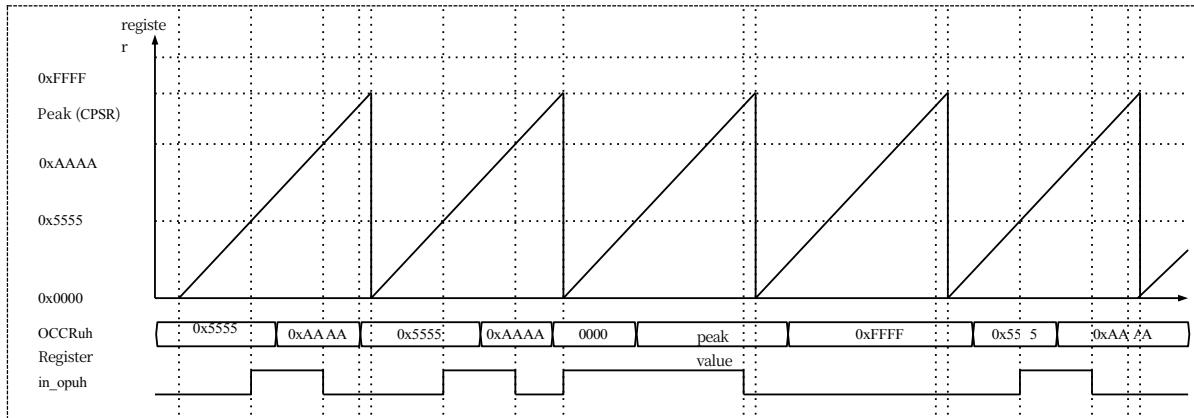

Figure 19-6 Sawtooth Mode Waveform Output Example
- Figure 19-6 below shows an example of the waveform output of the compare output module in the sawtooth wave counting mode.